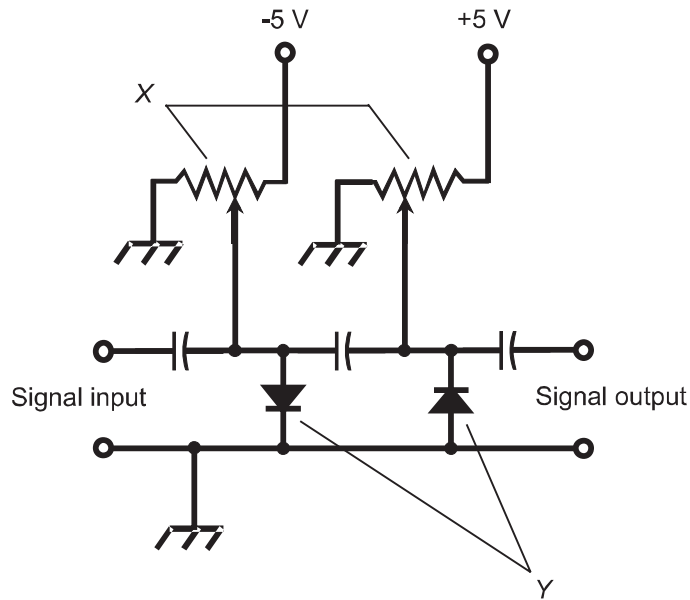

Fig. Exam-3. Illustration for Final Exam Questions 24 and 25.
24. In Fig. Exam-3, what are the potentiometers marked *X* meant to do?
25. In Fig. Exam-3, what are the diodes marked Y meant to do?